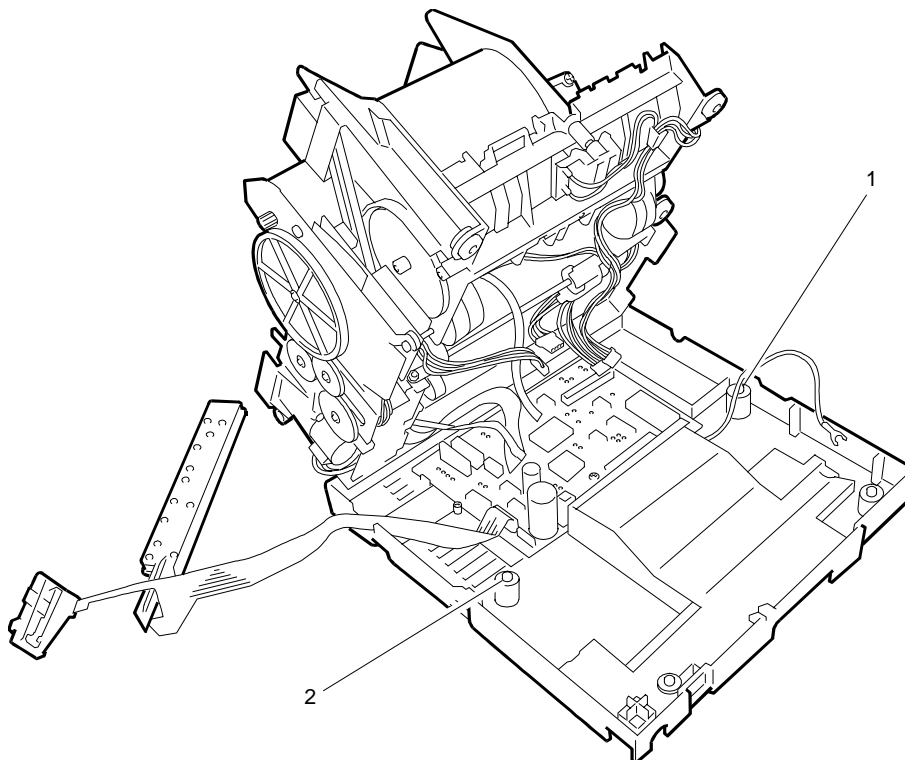

Figure 5-9
- Remove screws **1** and **2** shown in the figure so as to be able to lift the machine from the base (Fig. 5.9).